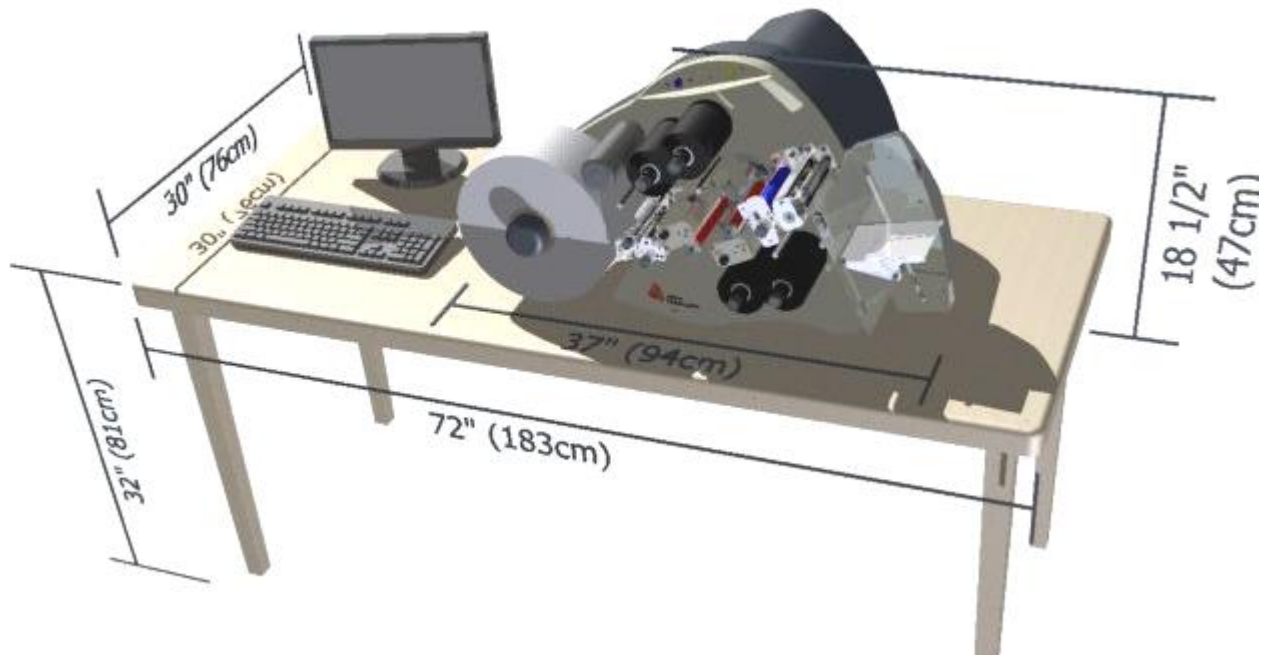

Figure 1. Recommended Workstation Layout
The SNAP 700 printer weighs 60 pounds (27.2 Kg) and requires a table of sufficient quality and strength to handle this load. The printer requires an area of approximately 72" wide x 30" deep x 32" high (1.8 m x 76 cm x 81 cm). The host PC (if used) and any printer options will increase the required area. AVERY DENNISON recommends using an industrial type worktable. Refer to Figure 1 below.
1. Physical demands on the operator will dictate proper height of the table supporting the printer. Ensure the operator has comfortable access to the printer. Refer to Figure 1.